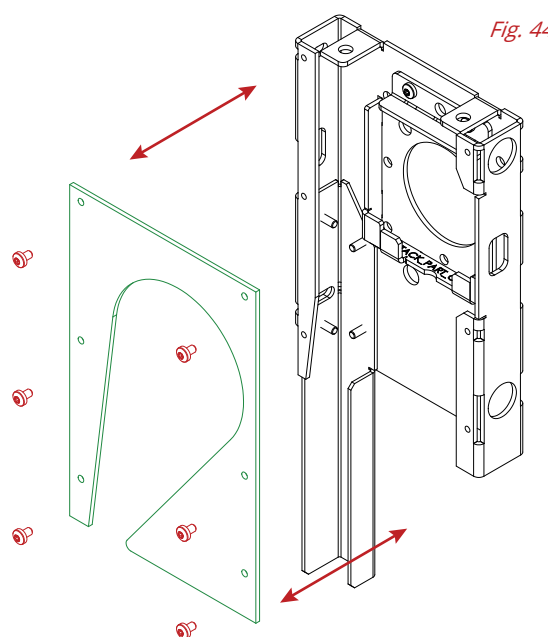

Fig. 44
**2 / REATTACH THE CHAIN GUIDE PLATE TO THE BRACKET USING THE 6 PREVIOUSLY REMOVED SCREWS (FIG.44).**